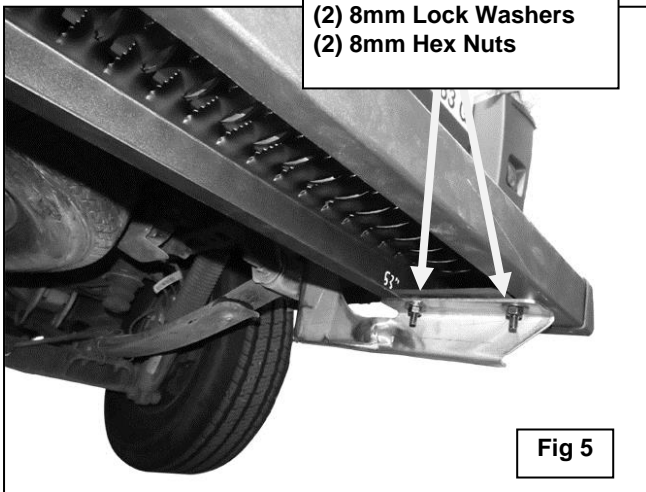

Fig 5
6. Attach the Step to the Brackets with (4) 8mm Flat Washers, (4) 8mm Lock Washers and (4) 8mm Hex Nuts, **(Figure 5)**. Do not fully tighten hardware at this time.